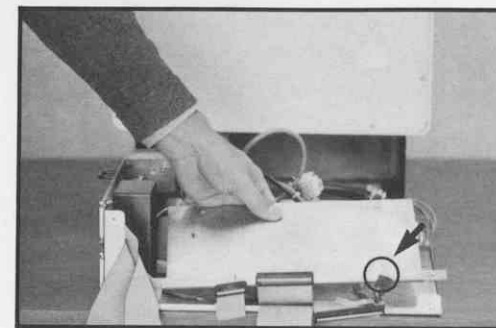

Figure 32 Copper Plate Removal
- 4.9 You'll see a thin copper plate (usually notched as shown in Figure 32) on the bottom of the chassis. Lift this plate out of the chassis.